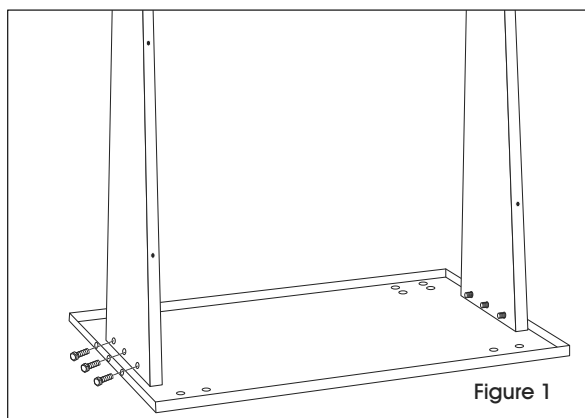

Figure 1
1. Position deck on flat surface with lipped edge facing up. Place one support panel against the inside of the short side of the deck. Align holes on the bottom of the support panel with holes in the deck lip. (See Figure 1)
2. Insert three long bolts through the holes in the deck lip. Secure using 14 mm wrench, but do not tighten. (See Figure 1)
3. Repeat steps 1 and 2 for second support panel. (See Figure 1)